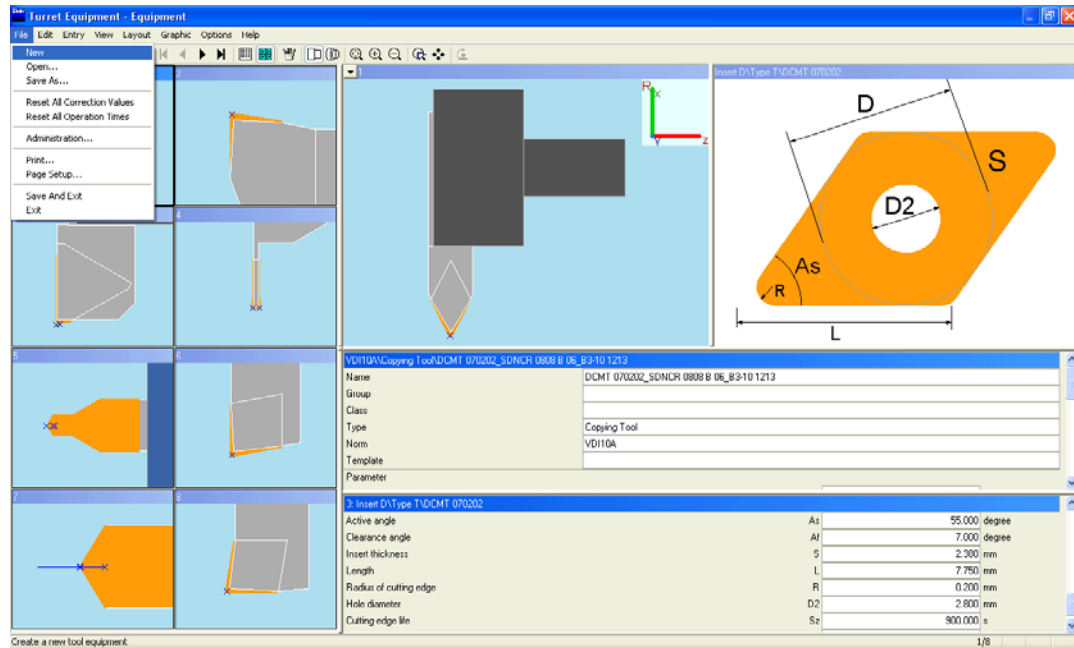

Fig. 2.15
a. From the drop down menu “**File**” to open a new file as shown in Fig. 2.15.